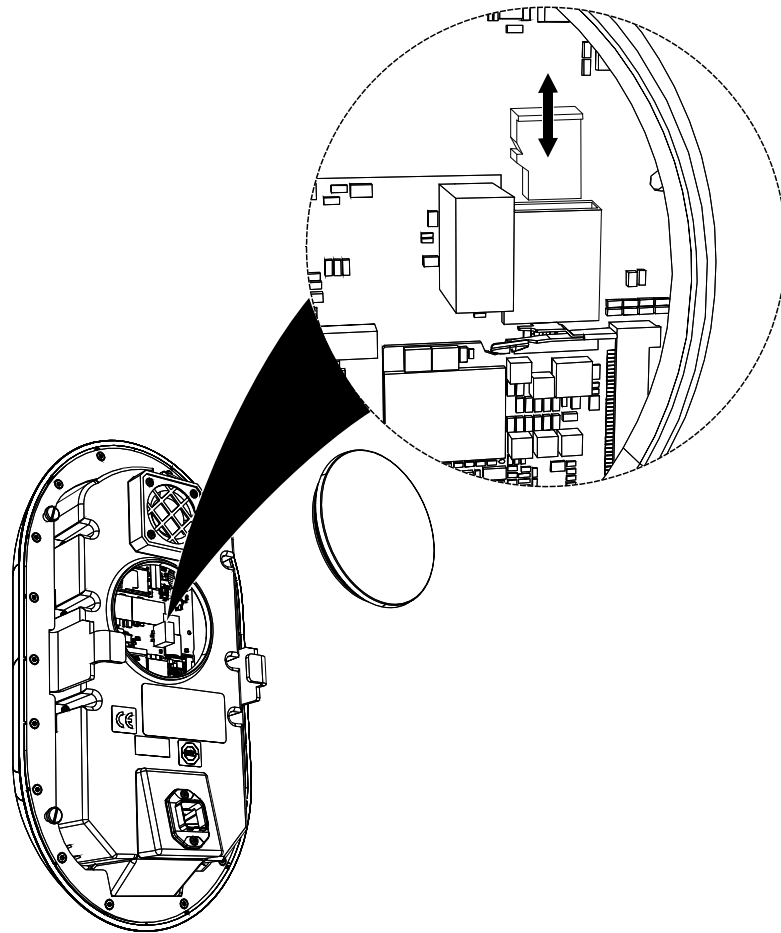

Figure 5-29 MicroSD Card Removal
- STEP 9:** Re-install the main unit (**Figure 5-29**).
The drawing in **Figure 5-29** shows how to remove and replace the MicroSD Card in the main unit.
- STEP 2:** Remove the plate as shown in **Figure 5-29**.